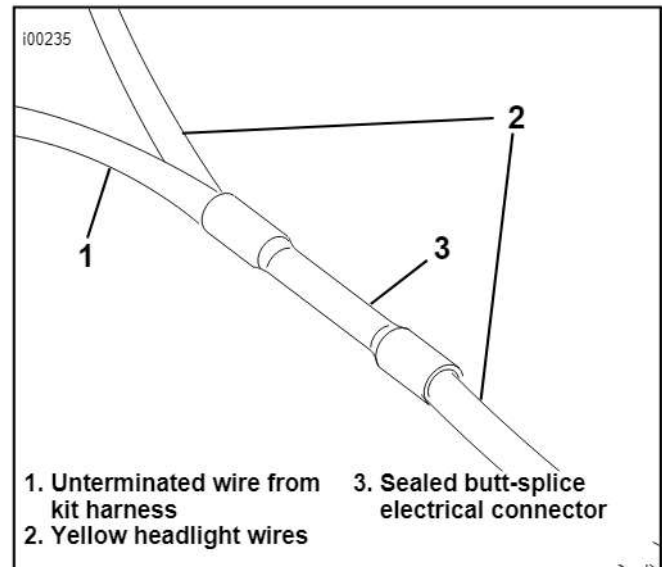

Figure 8. Splice Fog Lamp Switch Wiring
13. **All models:** See Figures 8 and 9. Connect the unterminated wire to the low beam (yellow) wire from the headlamp socket with the heat-sealed butt-splice connector from the kit as follows:
- c. Insert the ends of both yellow wires and the wire from the kit harness into the sealed butt-splice connector from the kit as shown in Figure 8.